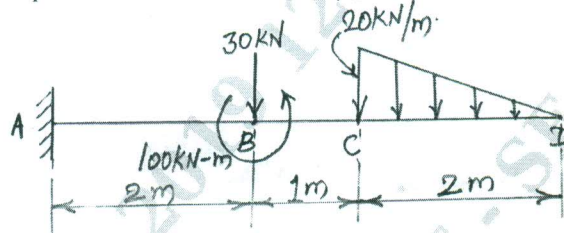

Fig.Q5(b)
- b. Draw the shear force and bending moment diagram for the beam loaded as shown in Fig.Q5(b). Locate the point of contraflexure if any.